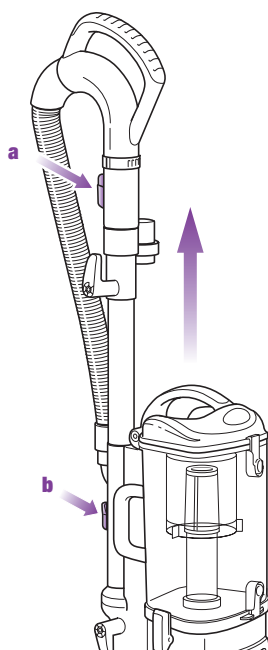

Fig. 14
- 2 Press the handle release button (a) and pull the handle up or press the extension wand release button (b) and pull the extension wand up. (Fig. 14)
- 1 Press the extension wand release button and pull the extension wand up. (Refer to page 14, Fig. 14-b)